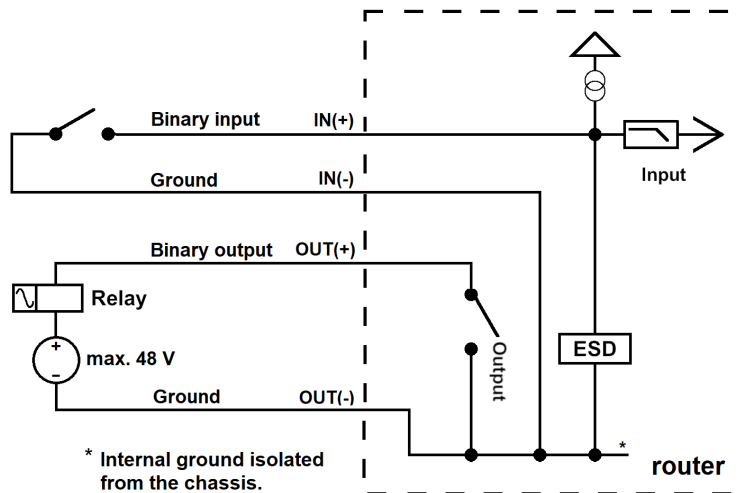

Figure 14: Functional Scheme of the Digital Interface
- i** The thread of the SMA connector for the WiFi antenna is connected to the internal ground, see Figure 14.
The power supply (common pole) is not connected to the metal case of the router nor to the internal ground, see Figure 14.
The I/O user interface is designed for digital input processing and digital output control. For detailed electrical parameters see Chapter 3.6. The functional scheme of connection for the digital input and digital output is in Figure 14.